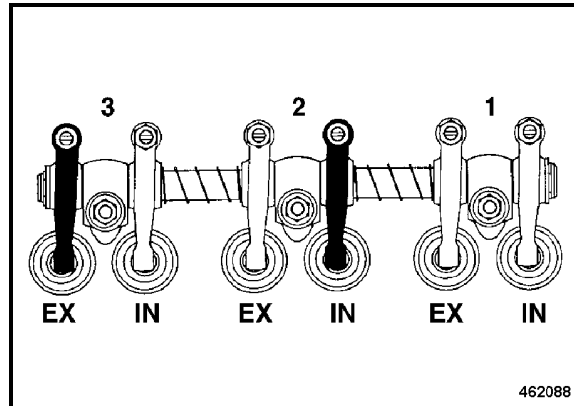

Fig. 149
- Perform the adjustment of the valve by following the adjustment diagram 1”(Fig. 149), black mark.